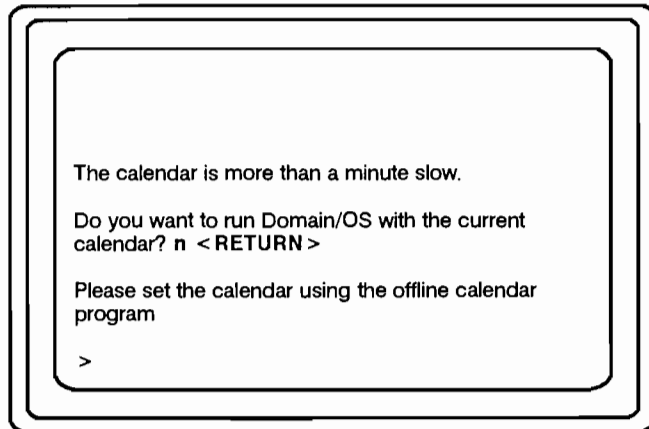

Figure 3-1. Running the calendar Program
3. If you receive one of the messages shown in Figure 3-1, you need to set the system's calendar. Respond to either of these screen prompts as shown in Figure 3-1.